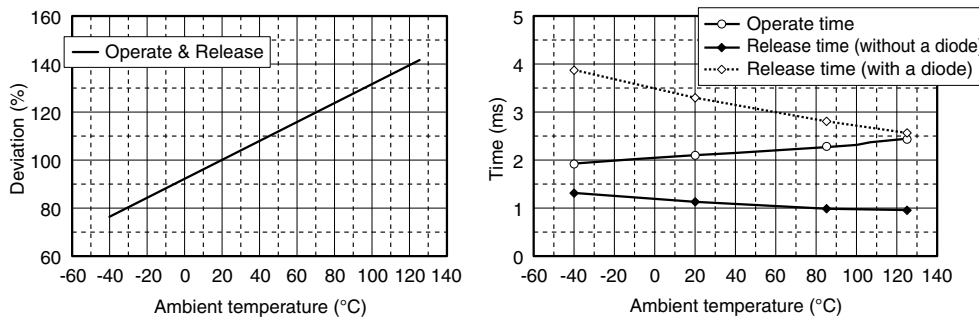

Figure 10 Temperature characteristics of relay (Example: EX2 relay)
- <1> Please use the relay at coil rated voltage within the specified temperature range. NOTE: Permissible coil voltage may be restricted and must be confirmed before the relay is used. (Refer to (2) in "Maximum applied coil voltage").
- <2> The operating characteristics of the relay change with ambient temperature. Confirm the temperature condition in the application and confirm the characteristics changes at the technical documents. Figure 10 shows the example of the temperature characteristics.